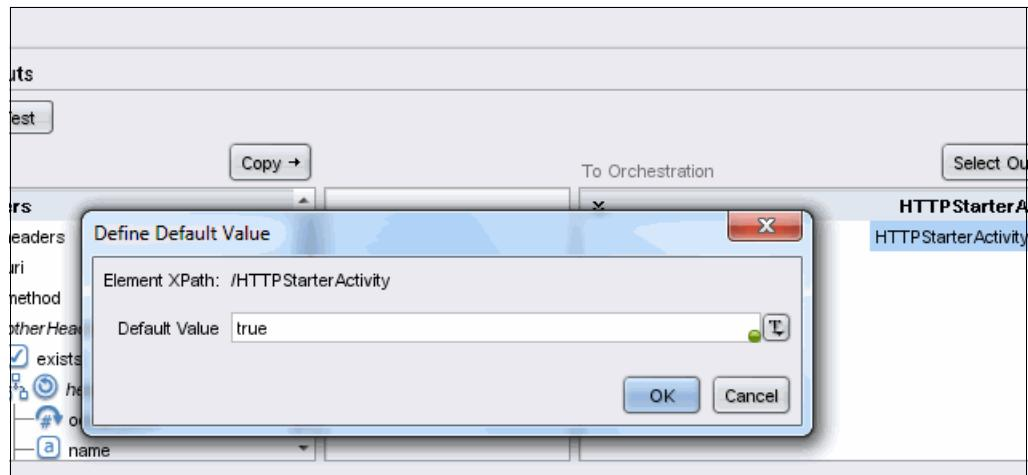

Figure 11-29 Setting a variable value in Map Outputs for HTTP Receive Request activity
- c. Set its default value to True, as shown in Figure 11-29. Click **OK**.